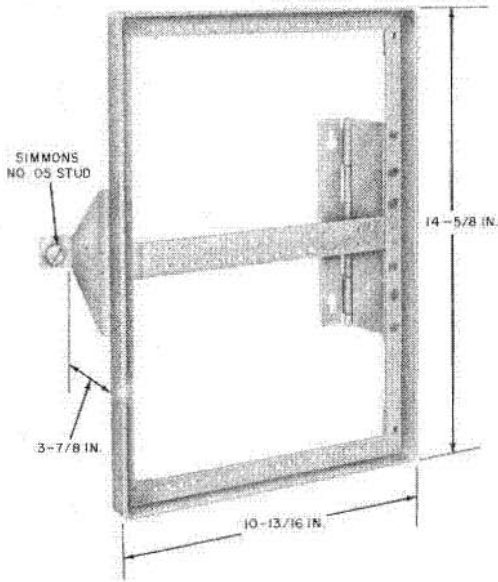

Fig. 8—31A (MD) Apparatus Mounting
3.05 The 31A (MD) apparatus mounting (Fig. 8) is a hinged metal framework approximately twice the size of a 15A apparatus mounting. It is primarily used to mount panel-type 200-series KTUs, mounts on a 173B backboard, and may be enclosed with a 116A cover. The 31A (MD) apparatus mounting framework, less welded hinge and quick fastener details, is obtainable as an 811331131 (P-13C113) frame assembly and may be mounted singly or in pairs on 23-inch span frames with the aid of two 813538733 (P-35C873) mounting bars. The 31A (MD) apparatus mounting may also be mounted on a 177A backboard by using a D-179862 kit assembly.